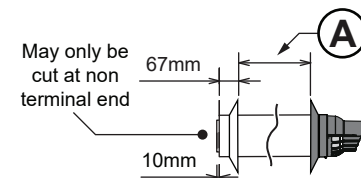

Fig. 9
4. Measure the required length for the horizontal terminal to penetrate the wall and allow an extra 67mm protrusion from the inside wall surface as shown in Fig. 9. See also the section "CUTTING THE FLUE COMPONENTS" on page 4.